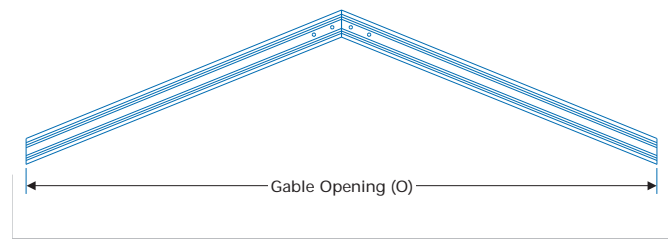
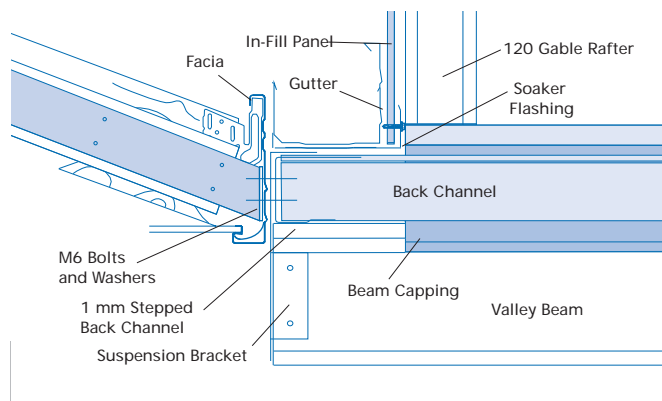
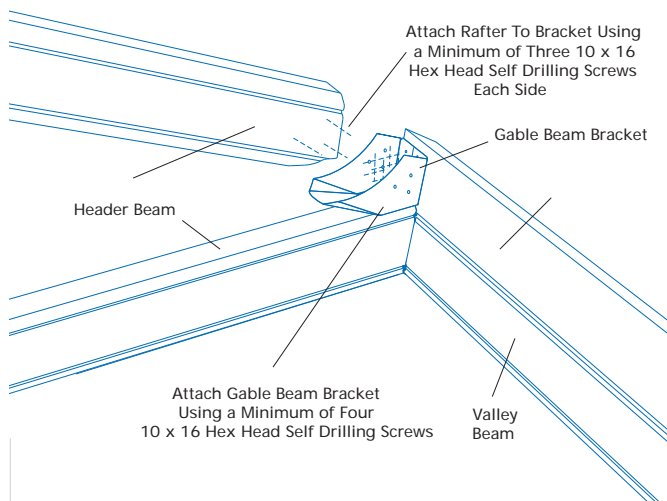
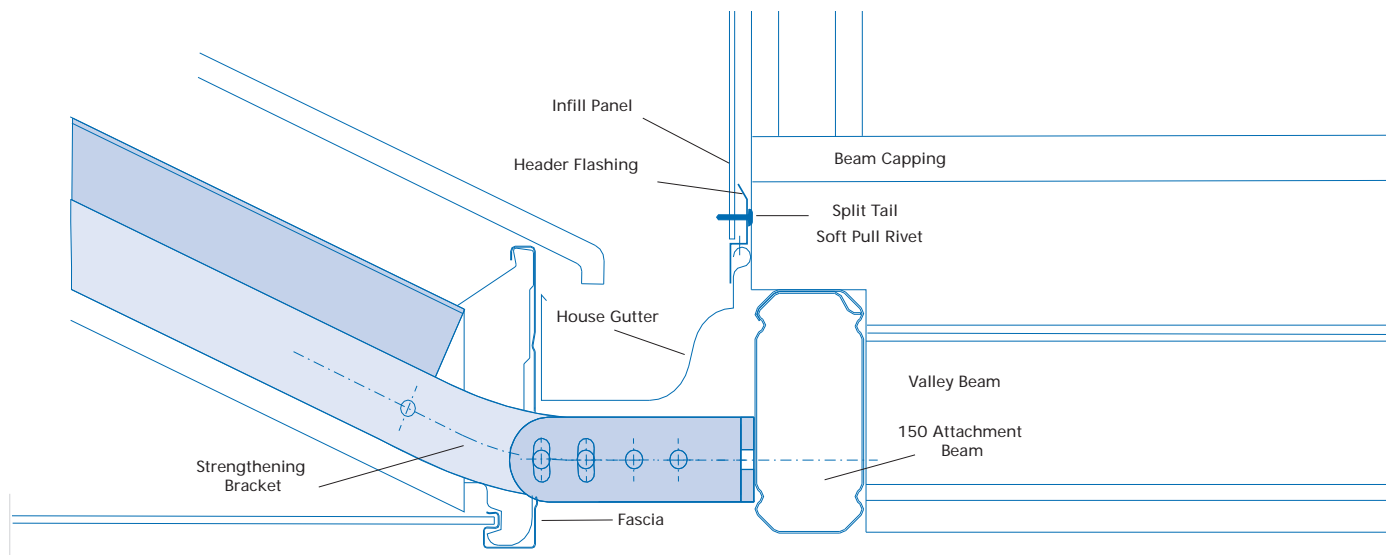

Figure 12
Figure 17
Figure 20
Figure 24
If fixing a Clearspan Gable on its end to an attachment beam, elevated to the existing house gutter height, the attachment beam is to be as close as possible (within 5mm) to the outside face of the gutter (Figure 24). The 150 attachment beam is fixed to rafter strengthening brackets as detailed in section 2.1.1.
Measure the distance between rafter ends, (O), to check valley beam spacing (Figure 12).
For units attached on the end to a fascia, suspension brackets are positioned at either side of the gable opening at the spacing determined in Section 3.0 (Figure 12). The top tab of the suspension bracket must be located between the fascia and back channel. A minimum of two M6 bolts with washers are fixed through back channel, suspension bracket and fascia (Figure 17).
For units attached on the end to an attachment beam (Figure 24), beam to beam brackets are positioned at either side of the gable opening at the spacing determined in Section 3.0 (Figure 12).
Rafters are supplied notched at the base to fit the gable beam brackets. Rafters are fastened inside the gable beam brackets with a minimum of three 10x16 hex head self drilling screws either side as shown in (Figures 20 or 21).
A rear header beam will be required if the unit includes infill to the rear gable frame. For units attached at the rear with suspension brackets, the rear header is fixed between valley beams using beam to beam brackets. If fixed at the rear to an attachment beam (Figure 24), the attachment beam becomes the header (valley Rafters are supplied notched at the base to fit the gable beam brackets. Rafters are fastened inside the gable beam brackets with a minimum of three 10x16 hex head self drilling screws either side as shown in (Figures 20 or 21).
Fix the header flashing into position over the existing gutter lip with rivets. Infill panels are located behind the header flashing and fixed with split tail soft pull rivets at 500mm centres (Figure 24).